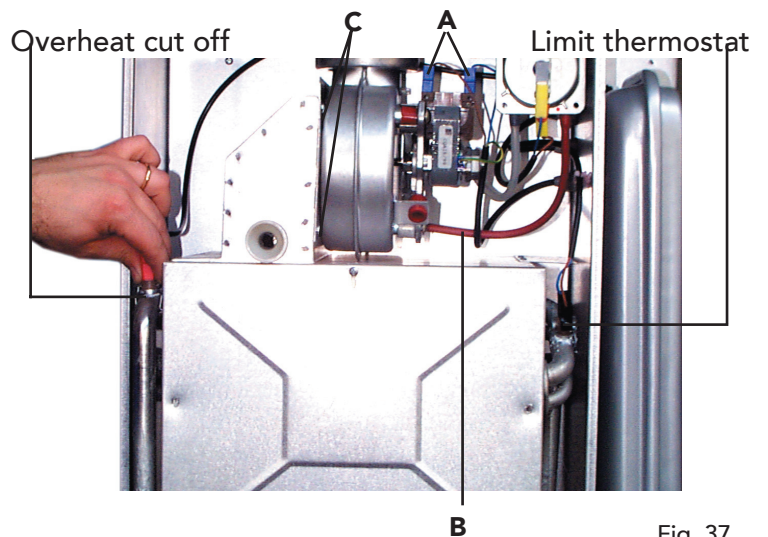

Fig. 37
## 7.10 Removal of fan (fig. 37)
## 7.11 Limit thermostat, or overheat cut off thermostat (fig. 37)
- Identify the location of thermostat from fig. 37